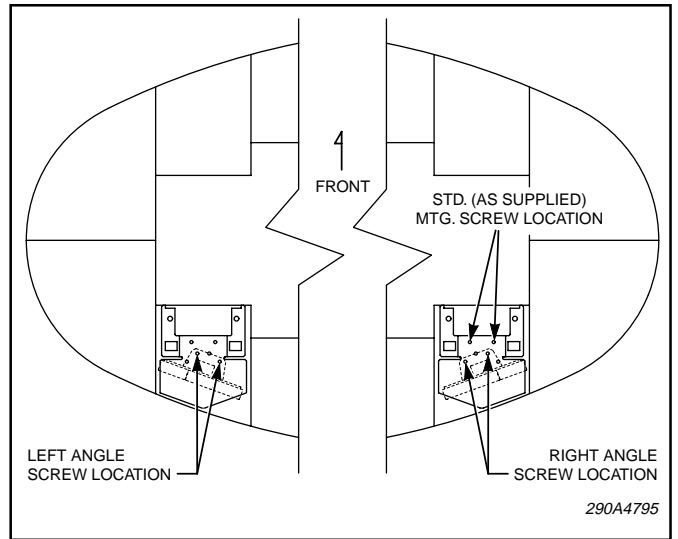

Figure 2.
4. See figure 2. If the light head is installed in right rear or left rear positions, the LED light module can be angled. Remove the two screws that secure the LED light module to the shade. Angle the LED light module as shown. Secure with the previously removed screws.